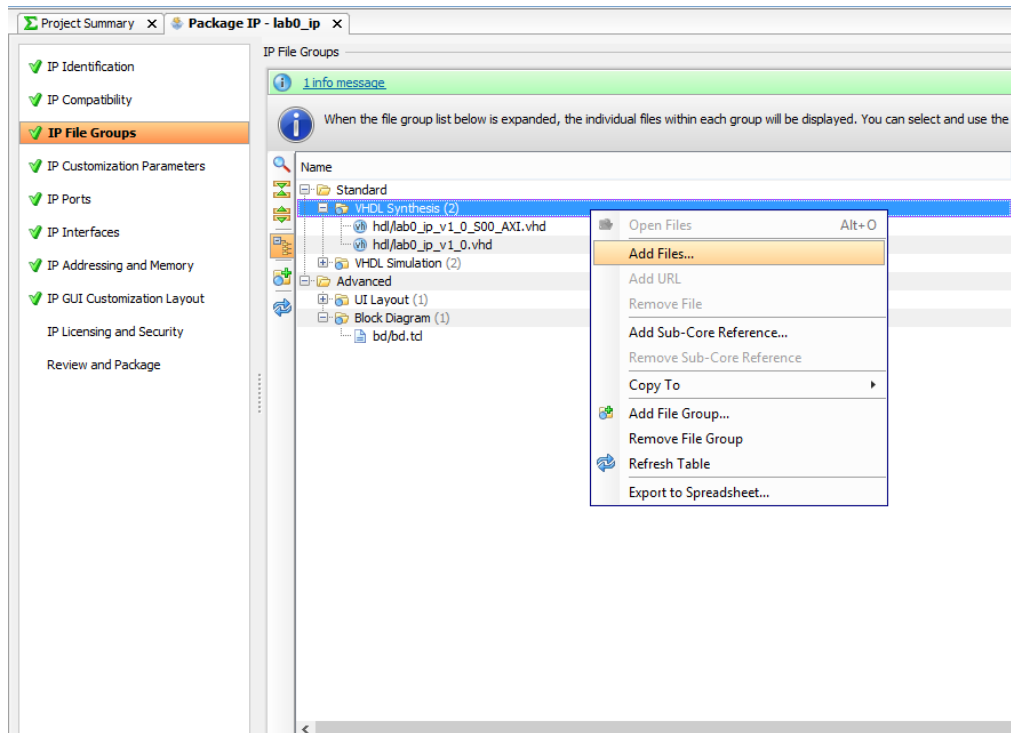

Figure 5-3: Step 5.3, Add VHDL files to the IP definition if needed
- 5.3. **If** the changes to the file involved adding new VHDL files, they must be added in the “**IP File Groups**” to both the “VHDL synthesis” and “VHDL Simulation” folders, as shown in Figure 5-3.